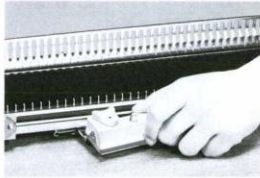

Fig.10
6. Insert the row counter into position into the socket to be found at centre back under the machine. (Figs 10 & 11)